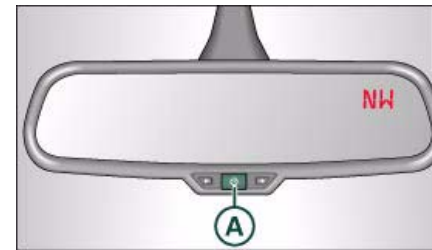

Fig. 70 Interior mirror: activated digital compass
- To switch the compass on and off, press and hold button  until the compass display in the mirror ⇒ fig. 70 appears or disappears.
- Press and hold button **A** ⇒ page 68, fig. 70 until the currently set zone number is displayed on the interior mirror.